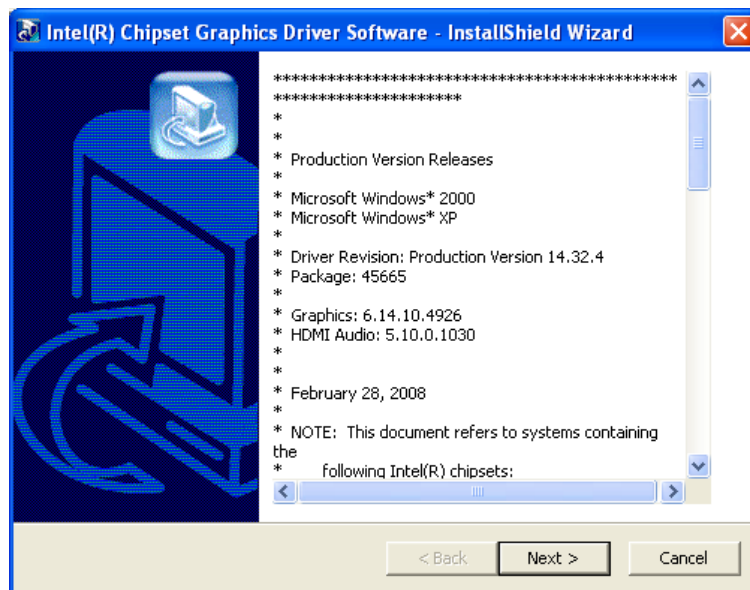

Figure 7-10: VGA Driver Read Me File
- Step 3:** The VGA Read Me file in **Figure 7-10** appears.